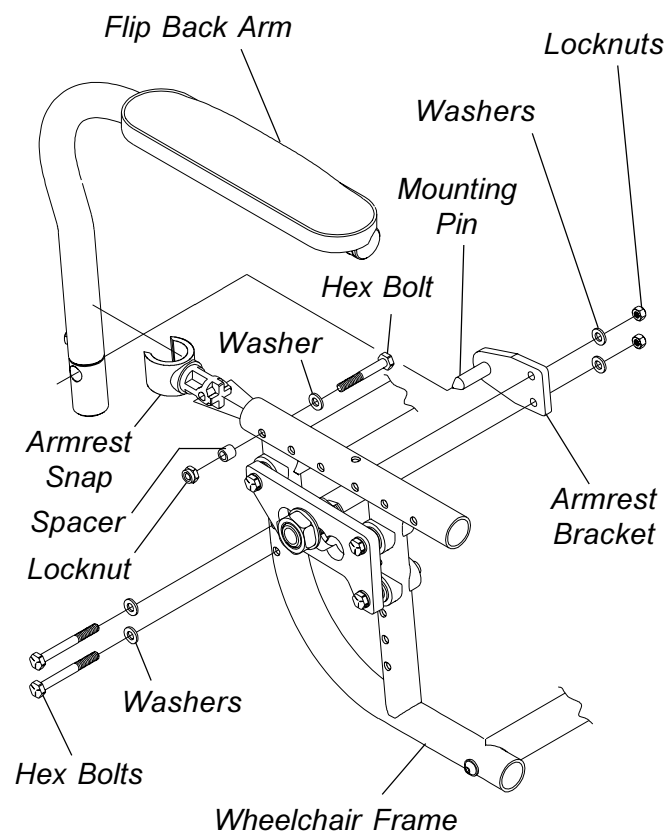

FIGURE 10 - INSTALLING FLIP BACK ARMS
INSTALLING FLIP BACK ARMS (FIGURE 10)
1. Position the armrest bracket on the wheelchair frame. Refer to **FIGURE 10** for correct orientation.
2. Install the two (2) hex bolts and four (4) washers through the armrest bracket and wheelchair frame as shown in **FIGURE 10**.
3. Install locknuts onto the two (2) hex bolts and tighten securely.
6. Install the hex bolt, washer and spacer as shown in **FIGURE 10**.